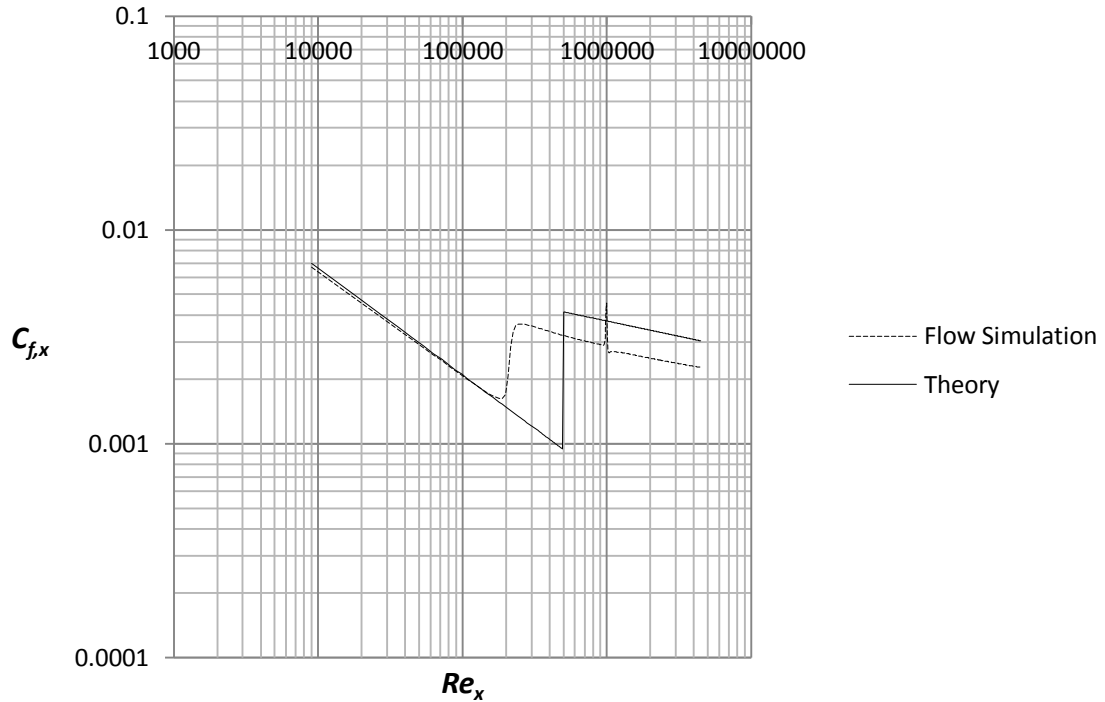

Figure 2.32 A comparison between Flow Simulation (dashed line) and theoretical laminar and empirical turbulent friction coefficients
34. Place the file “xy-plot figure 2.32” into the **Local Disk (C:)/Program Files /SolidWorks Corp/SolidWorks Flow Simulation/lang/english/template/XY-Plots** folder to make it available in the **Template** list. Repeat step 24 and choose the sketch $x = 0 - 0.9$ m, uncheck the box for **Velocity (X)** and check the box for **Shear Stress**. Rename the xy-plot to **Local Friction Coefficient for Laminar and Turbulent Boundary Layer**. An Excel file will open with figure 2.32. Figure 2.32 is showing the Flow Simulation is able to capture the local friction coefficient in the laminar region in the Reynolds number range 10,000 – 200,000. At $Re = 200,000$ there is an abrupt increase in the friction coefficient caused by laminar to turbulent transition. In the turbulent region the friction coefficient is decreasing again but the local friction coefficient from Flow Simulation is significantly lower than empirical data.